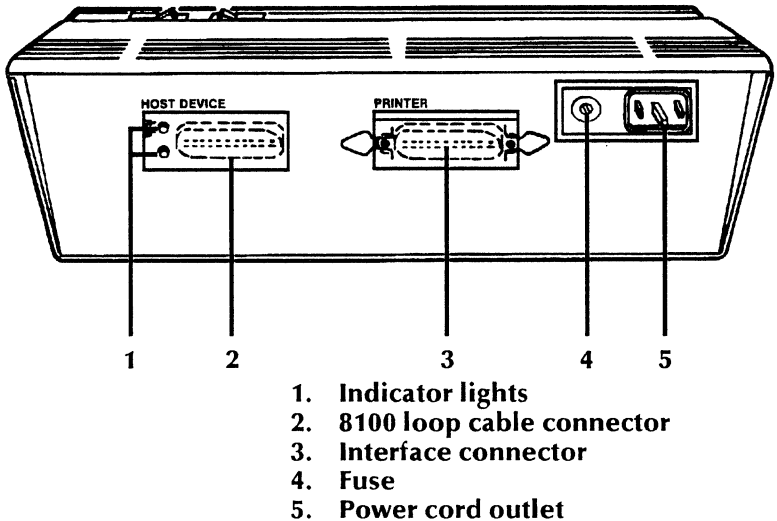

Figure 6-7 Back of 276 IC
1. Locate the loop cable connector labeled HOST DEVICE on the back of the 276 IC. Figure 6-7 shows the back panel of the 276 IC.